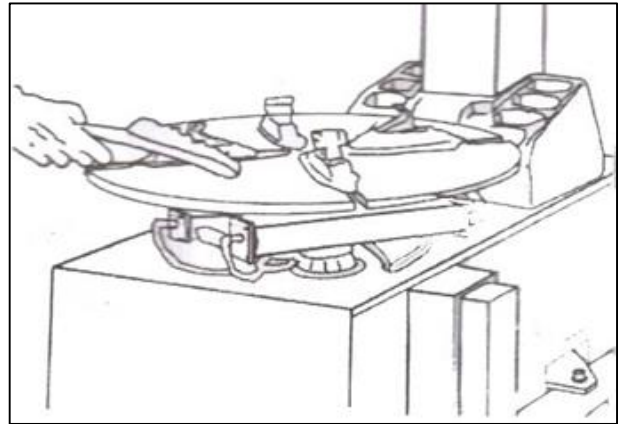

Fig. 26
- Clean turntable, clamps and demount head. Use lithium based oil to lubricate (Fig 26).